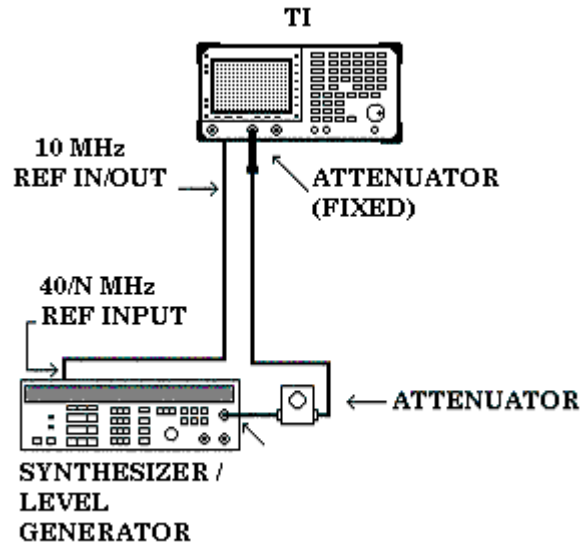

Figure 3. Reference level accuracy equipment setup.
- (1) Connect equipment as shown in figure 3.